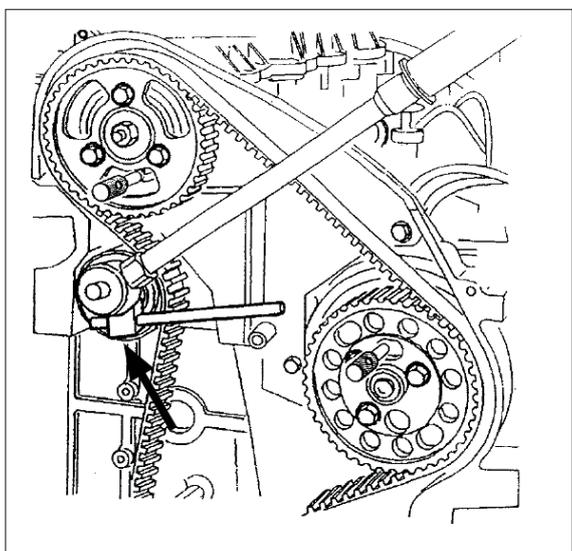

FIG. 2
- This tool is needed in order to turn the tensioner and hold it in place while tightening the central bolt (25 Nm) (Fig. 2).